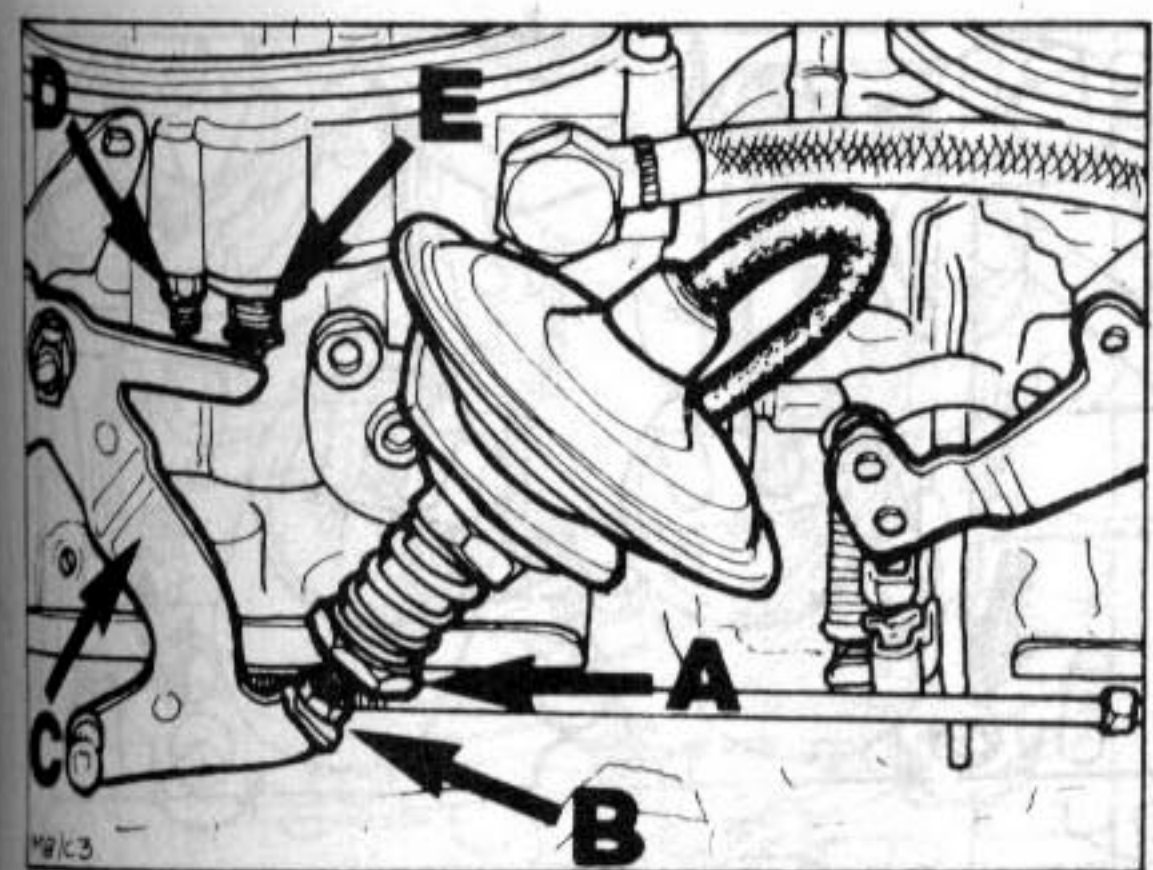

Fig. 5 Throttle governor adjustment
- With car in gear, check that engine runs about 100 rpm below specified idle speed. If necessary, adjust by turning adjusting nut (A, Fig. 5).
- Take out of gear and check that actuating lever (C) is against idle stop (D).
- If lever is touching plunger end bolt (B), turn bolt back slightly, then re-check compression spring setting with gear engaged.
- With engine idling, check that a clearance of 0,1 mm exists between head of plunger bolt (B) and actuating lever (C), (Fig. 5). Power steering and air conditioning must not be operating, where applicable.
- If necessary, adjust by turning compression spring adjusting nut (A).